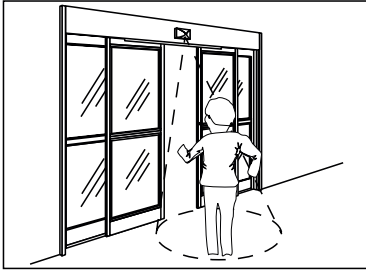

Figure 1
1. Check electronic sensor by walking toward the door opening at a moderate speed. Door should start opening when you enter the motion zone and should slide open smoothly, then stop without impact. Repeat on other side of opening. Move slowly through the door. The door should remain open. (See Figure 1)